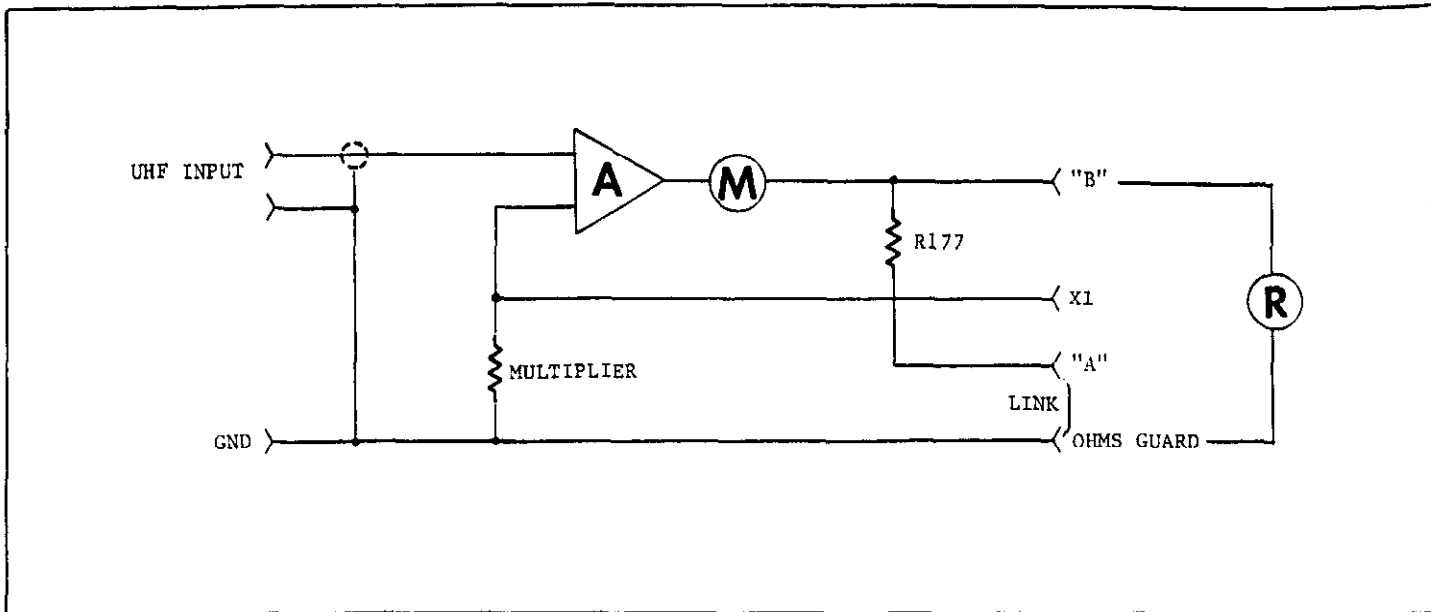

FIGURE 9. Block Diagram of Normal Mode Voltmeter.
a. The Model 600B employs matched insulated-gate, field-effect transistors followed by a transistor differential amplifier with a high-voltage complementary output stage. Figure 9 shows the block diagram for the voltmeter mode of operation.